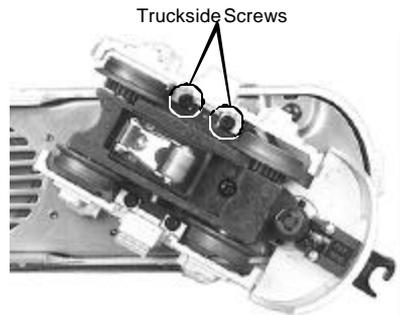

Figure 8. Screws to Remove to Access the Traction Tires
1. Remove the trucks and truck sides on the truck block from the chassis in order to slip the new tire over the grooved drive wheel. To do this, remove the screws as shown in Fig. 8.